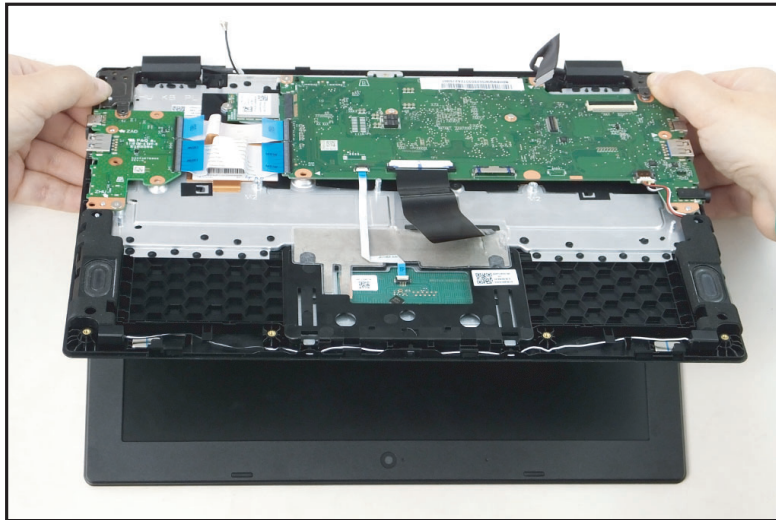

Figure 1-10. LCD Module Removal
6. Place your thumbs on the left and right side hinges while holding the top assembly with your two hands. Slightly rotate the top assembly upwards and release (Figure 1-10).